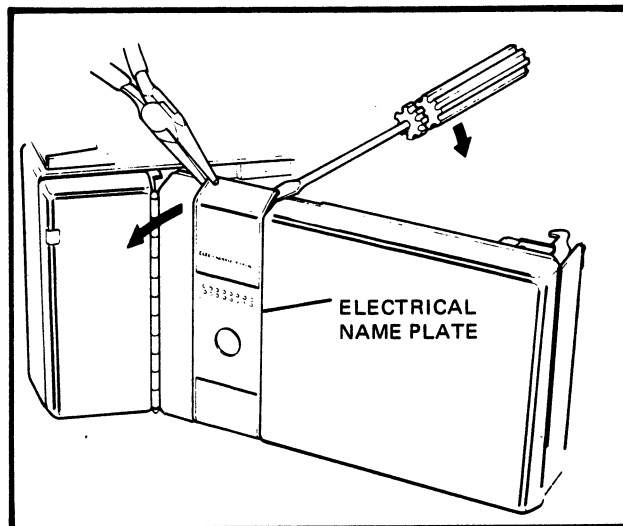

FIG. 5.35 FREEING THE ELECTRICAL NAMEPLATE
3. Remove the electrical nameplate: Carefully pry one edge of the nameplate loose using a fine blade screwdriver. Peel the nameplate free of the rear door using pliers (Figure 5-35).